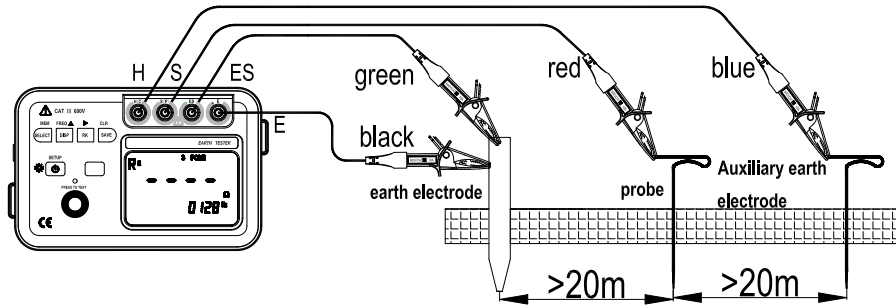

Figure 10
- (4) Connection of Auxiliary Earth Spikes and Test Leads(See figure 10)